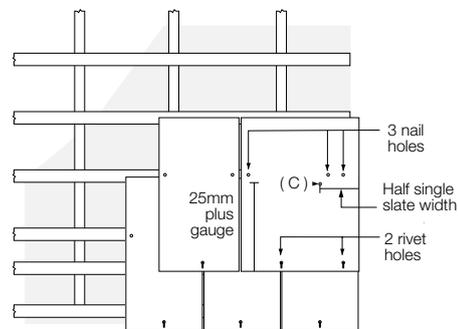

Fig. 11 Using slate-and-a-half to break bond
- 12 At the verge the next course starts with a full length slate and a half, drilling 3 x 4mm dia. holes for nails on the batten line and two additional 4mm dia. holes for the copper disc rivets (Fig. 11). A third 4mm dia. hole is required for the tail rivet of the course above at point C, (see Fig. 11), this is drilled half a slate width from the verge edge side of the slate and 25mm, plus gauge, from the bottom edge or tail of the slate.